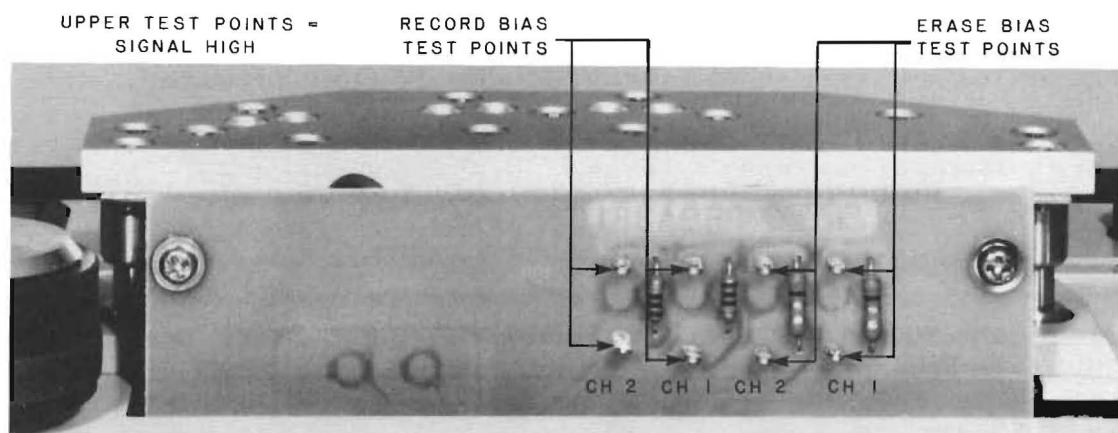

FIGURE 4-4. HEAD ASSEMBLY CIRCUIT BOARD BIAS TEST POINTS
4. Connect both an oscilloscope and a high impedance voltmeter which is capable of measuring 250 kHz (HP-400 or equivalent) to the erase bias test points for track 1 on the head assembly circuit board, as shown in Figure 4-4.